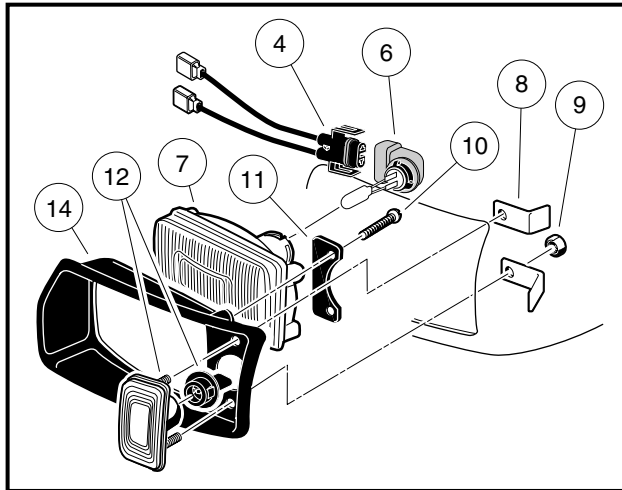

Figure 12-31 Headlight Assembly
4. From the front of vehicle, reach under cowl and turn the wire harness/halogen bulb assembly (4 and 6) clockwise one-quarter turn (**Figure 12-31, Page 12-31**).
5. Remove the wire harness/halogen bulb assembly (4 and 6) from the headlight lens (7).
6. Lift the retaining tabs on the connector (4) and remove halogen bulb assembly (6).
1. Connect wire harness (4) to the halogen bulb assembly (6). The retaining tab should lock onto the halogen bulb assembly (**Figure 12-31, Page 12-31**).
2. From the front of vehicle, reach under cowl and insert wire harness/halogen bulb assembly (4 and 6), into the headlight lens (7).